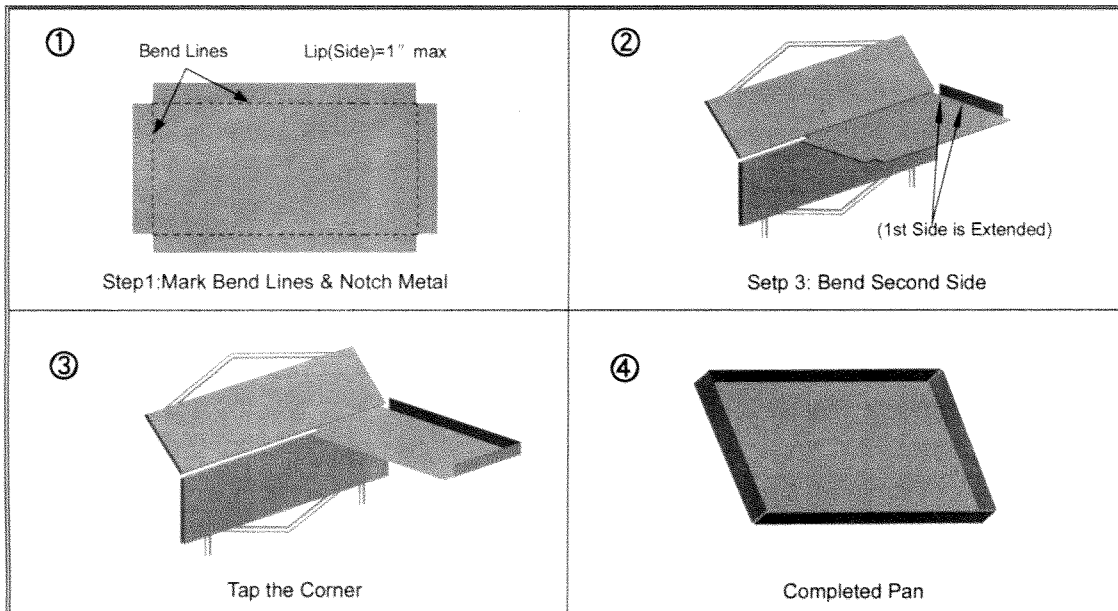

Figure9 - Pan Forming
Step 2: Insert material between the BENDING TOOL (S) and BENDING PRISM. Bend the material until a 90-degree angle has been formed as shown in Figure 9.